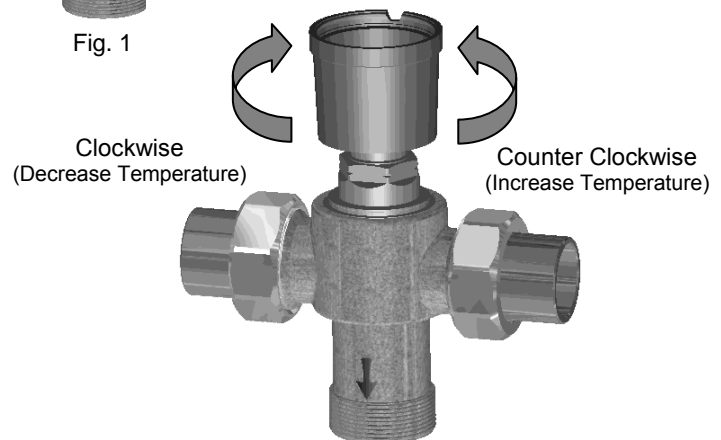

Fig. 2
2. Turn both the hot and cold water supplies on. Open an outlet, preferably a sink or basin rather than a shower. To calibrate, let the water run for 2 minutes and measure the outlet temperature with a thermometer. Using the groove on the top of the cover provided to fit over the adjustment nut, adjust the knob counter clockwise to increase temperature and clockwise to decrease temperature. (See Fig. 2)